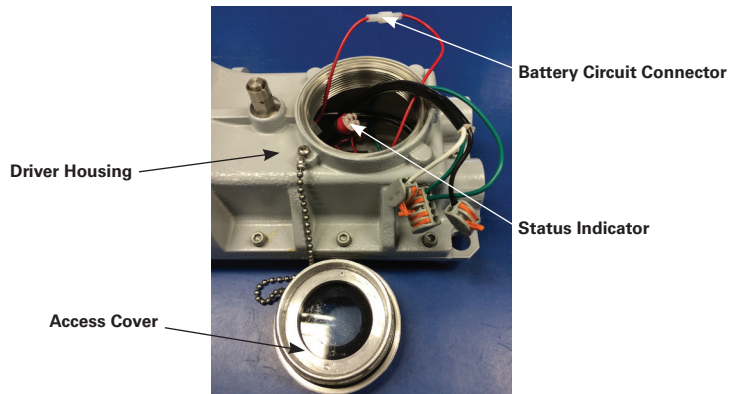
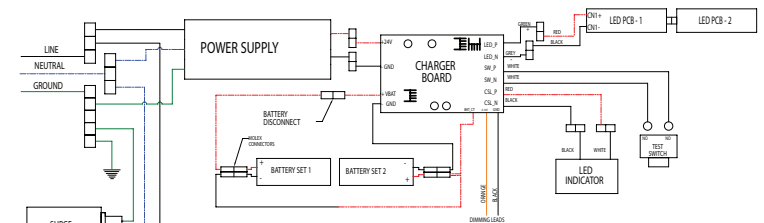

Figure 7
Figure 9
- Open the threaded wiring access cover (see Figure 7) and allow the cover to hang by the lanyard. All components in the emergency luminaire are pre-wired so only input power needs to be connected in the fixture to the lead wires (or terminals) per the wiring diagram (see Figure 9) using methods that comply with all applicable codes. Terminate the equipment grounding conductor (green) first, the common (white) next, and finally, the line voltage (black) last. Tighten all electrical connections. Note - Standard openings are 3/4" NPT.
- If employing the dimming function of the charger driver board: The driver housing must be removed. Use only listed 0-10 VDC lighting controls. Ensure controls are rated for the areas in which they are being installed. Follow manufacturer's installation instructions and applicable wiring methods as required by NEC/CEC. Ensure the power to the lighting control and the LED fixture are disconnected. Wire the dimming control signal wires per Figure 9. Locate the dimming control signal input wires (orange and black). Using wire rated for minimum of 75°C for ambient temperatures not exceeding 40°C, connect the positive lead from the lighting control unit to the orange lead, then connect the ground lead of the lighting control unit to the black lead wire of the charger driver board. Remove the optional control jumper on the charger driver board (see Battery Replacement Instructions). If the dimming control voltage is set too low, some flickering of the LEDs may occur. If this happens, raise the minimum value of the analog dimming voltage.
- Refer to schematic for wiring. Only three (3) conductors maximum are allowed through each entry hub.